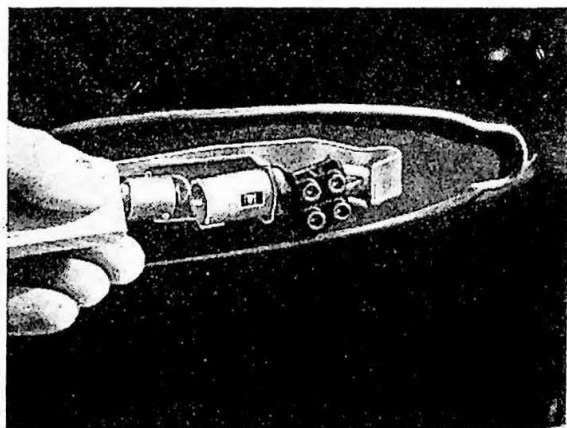

Fig. 17.
2. Remove the faulty bulb and fit the new as shown in fig. 17. There are two types of bulb-holder. The late production bulb-holder only allows the fitting of the bulb in one position.